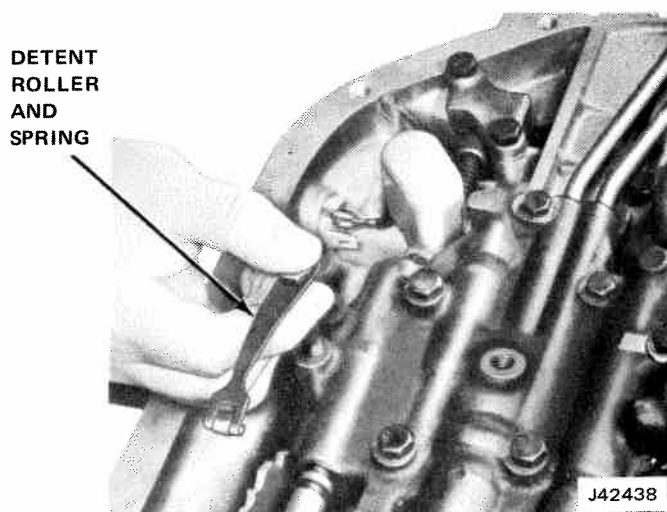
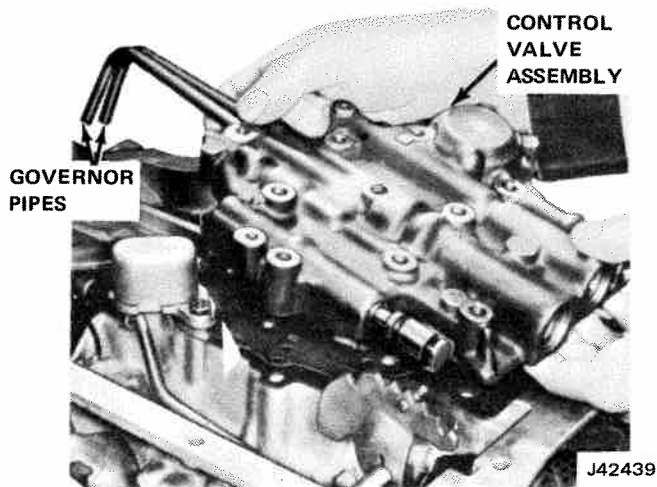

Fig. 7-8 Removing or Installing Detent Roller Assembly and Spring
Fig. 7-9 Removing Control Valve Assembly and Governor Pipes
- (1) Remove attaching screws of control valve body and detent roller spring assembly from transmission case as shown in fig. 7-8.
- (2) Disconnect solenoid lead from connector terminal.
- (3) Remove control valve body assembly and governor pipes from transmission case (fig. 7-9).